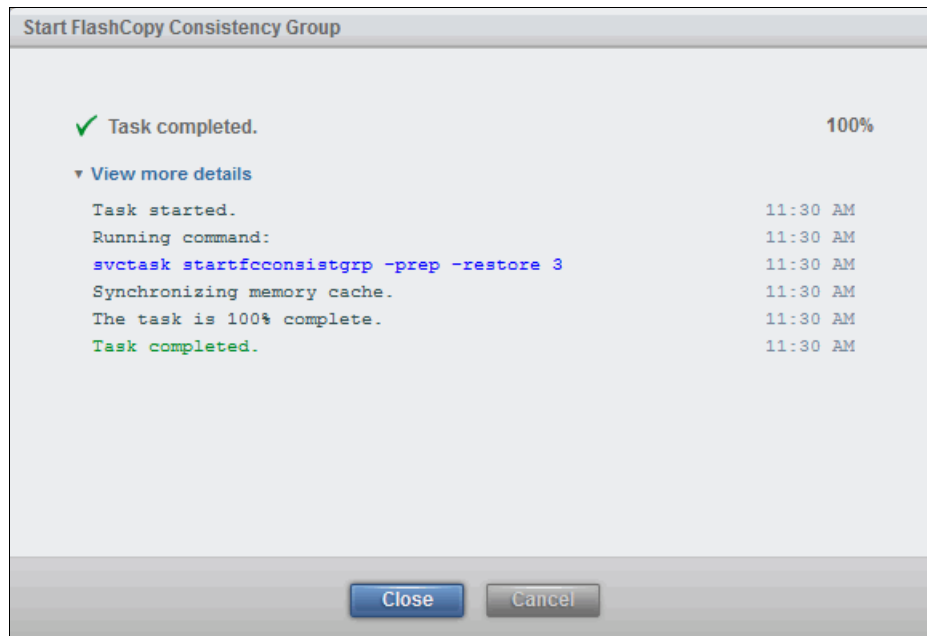

Figure 10-69 Consistency Group restore command
- This overwrites the source volumes with the original bitmap data that was saved in the snapshots. The command completes, as shown in Figure 10-69.